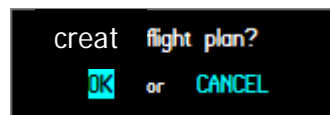

Figure 7.18
- 4.3 click on the ENTER key to display a window prompting to perform the function or cancel (Figure 7.18).